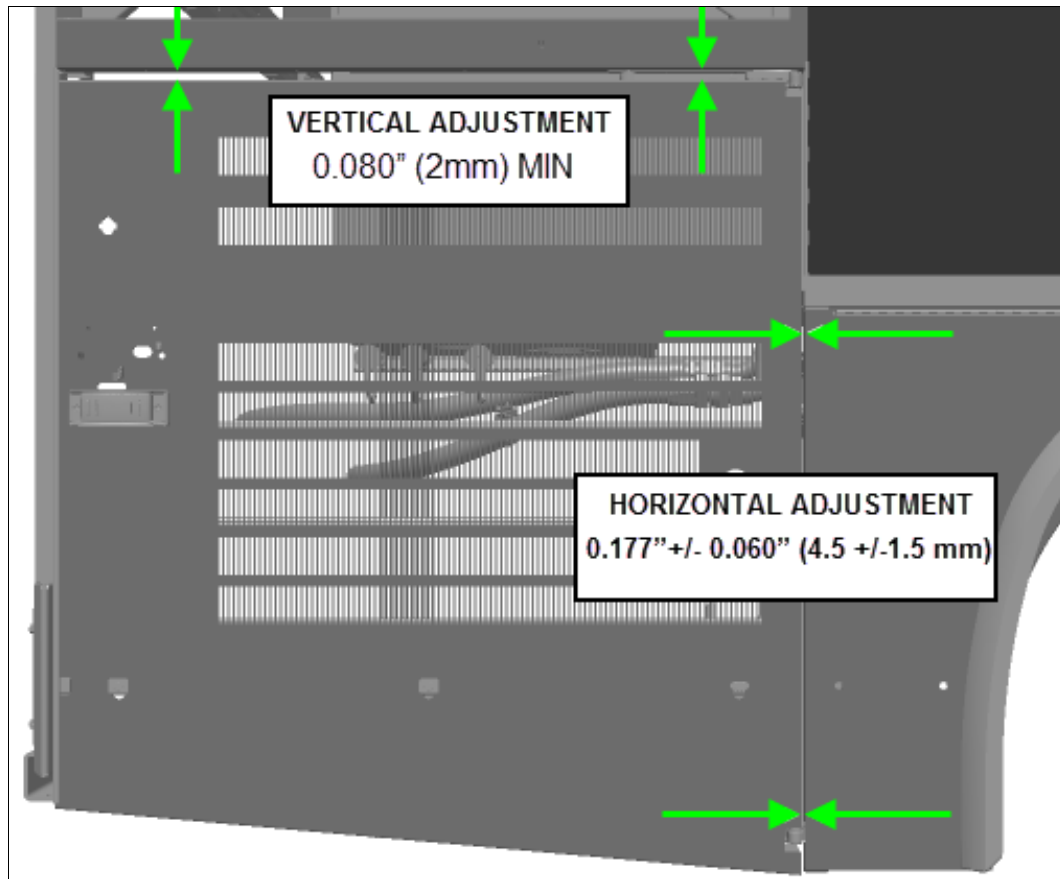

FIG.17 COMPRESSOR DOOR HORIZONTAL & VERTICAL GAPS
6. Remove door support installed at step 2 and open and close the door several times to make sure it is working properly, check door top and side adjustments. There should be an even (parallel) gap of at least 0.080" (2mm) at the top of the door and a 0.177" +/- 0.060" (4.5 +/-1.5 mm) gap between the door and the vehicle rear fender (Fig.17).